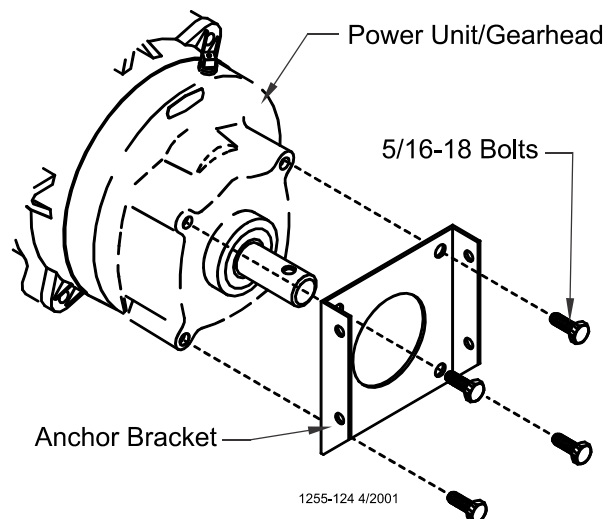

Figure 30. Assemble the Anchor Bracket to the Power Unit/Gearhead
3. Install the Anchor Bracket to the Power Unit/Gearhead, as shown in **Figure 30.**, with the included 5/16-18 Bolts.